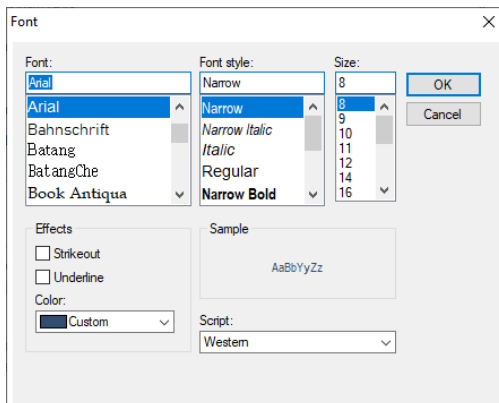

Figure 2.40: Setting font properties
- 4 Click **Format** and select *Font* to edit font properties on the **Font** window (Figure 2.40).